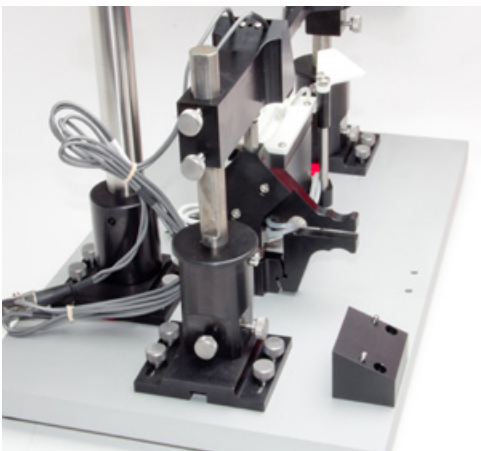

Fig. 15—Force transducer stand
7. Position the force transducer stand (**Fig. 15**) on the left side of the base plate so that the mounting slots on the stand align with the holes in the base plate. The force transducer mount must face the cuvette. Insert four thumbscrews through the mounting slots of the stand and into the four outside holes on the left side of the base plate. Slide the Force Transducer Mount into the position you prefer and finger tighten the screws.